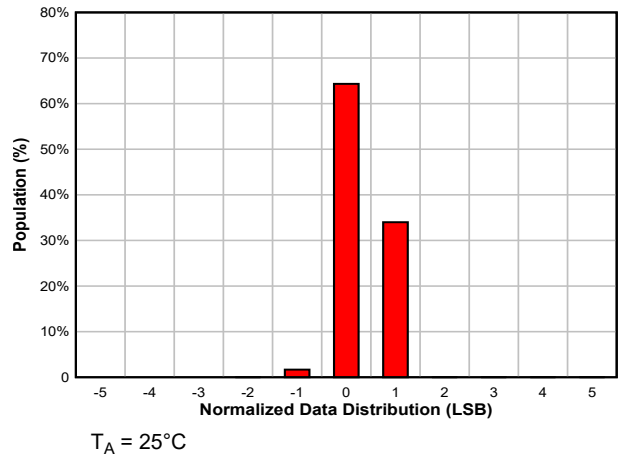

Figure 8-12. Data Distribution With 5.5-ms Conversion Time and Averaging On in 16-Bit Format
- Repeatability is the ability to reproduce a reading when the measured temperature is applied consecutively, under the same conditions. See Figure 8-12